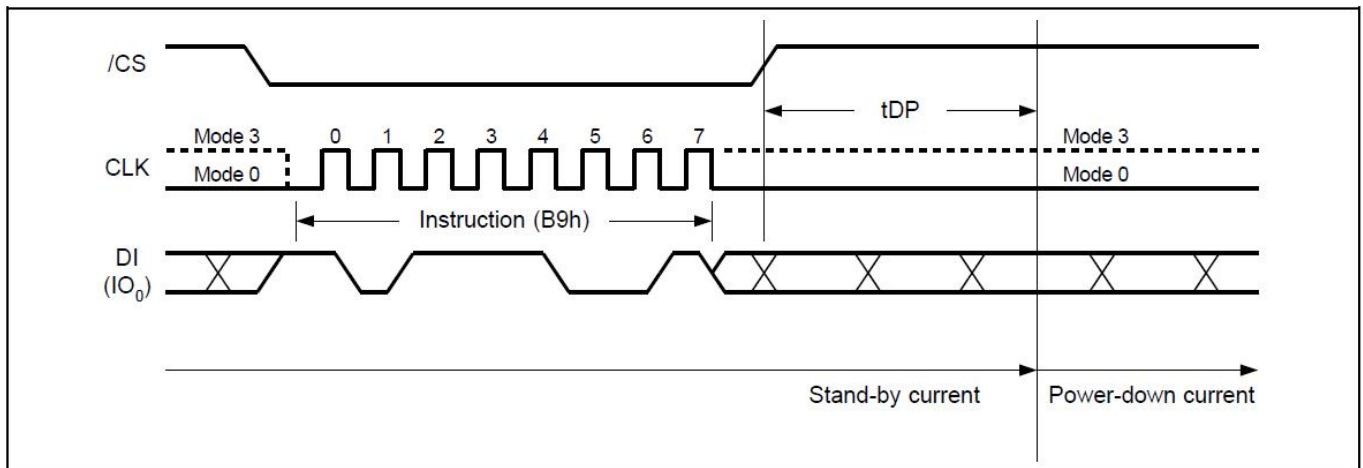

Figure19. Deep Power-Down Sequence Diagram
The Deep Power-Down Mode automatically stops at Power-Down, and the device always in the Standby Mode after Power-Up. The Deep Power-Down command sequence: CS# goes low → sending Deep Power-Down command → CS# goes high. The command sequence is shown in Figure19. CS# must be driven high after the eighth bit of the command code has been latched in; otherwise the Deep Power-Down (DP) command is not executed. As soon as CS# is driven high, it requires a delay of t_{DP} before the supply current is reduced to IDPD and the Deep Power-Down Mode is entered. Any Deep Power-Down (DP) command, while an Erase, Program or Write cycle is in progress, is rejected without having any effects on the cycle that is in progress.